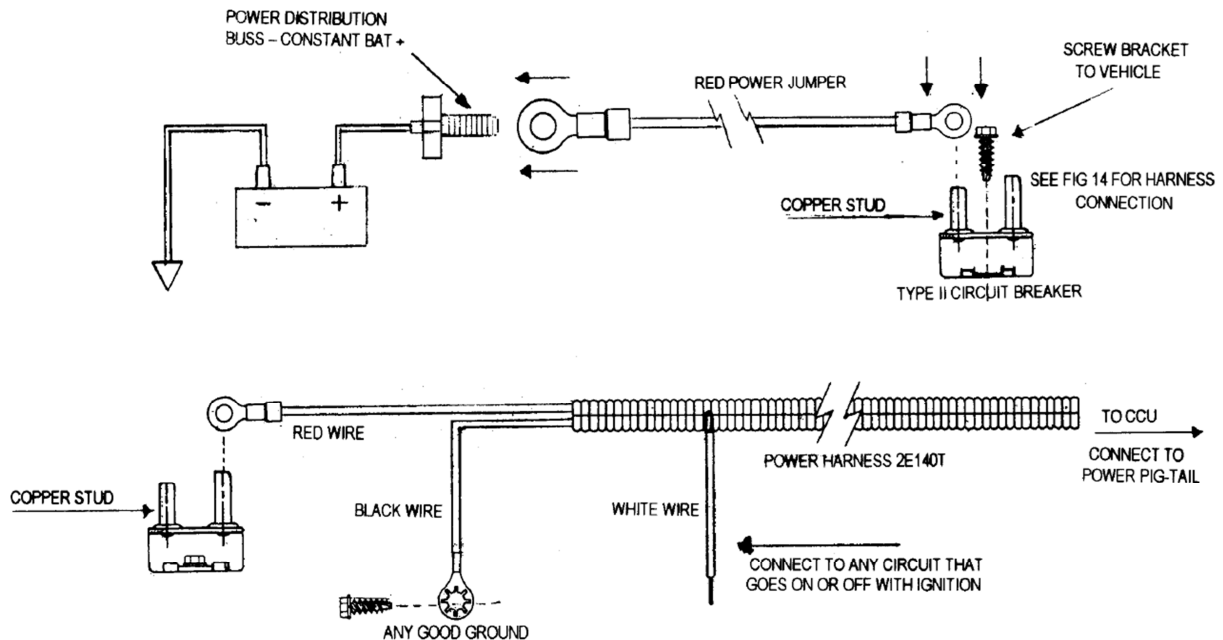

FIG. 17
6.0 CONNECTING AUTOTHERM® CCU TO POWER - HARNESS 2E140T - FIG. 17